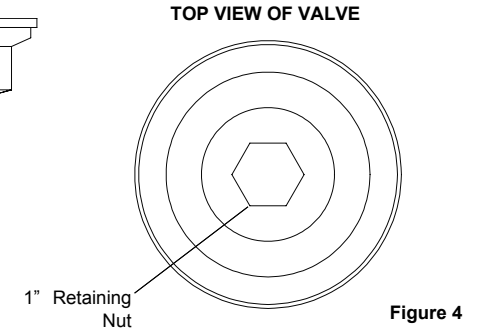

Figure 4
- **Teflon Seals-** Remove strainer. Unscrew the retaining nut, which contains one of the seals with a 1" Allen wrench. Pull the ball valve out from the top. The lower seal is now visible and can be removed. When replacing these seals make sure they are snapped firmly into place before reassembling your valve. See Figures 4 and 5.